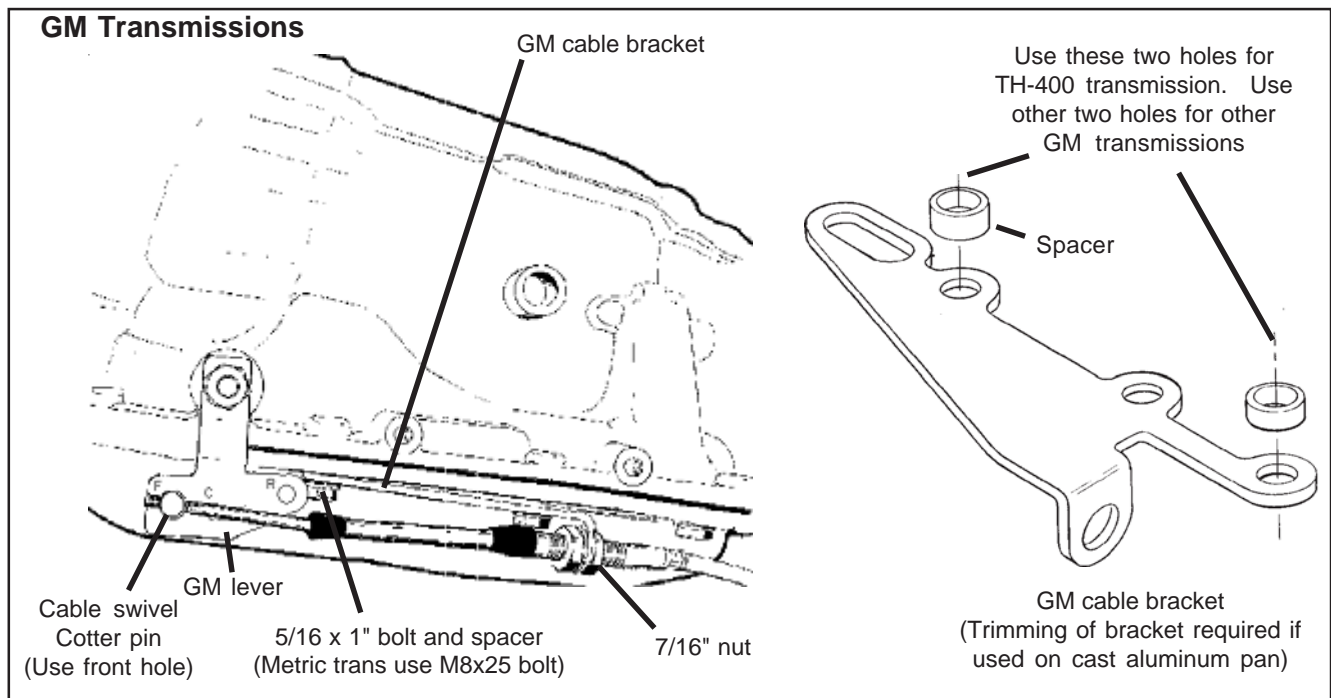

Figure 6
**STEP 10.** If you have not already done so, remove the stock selector lever nut and selector lever from the transmission. Discard stock lever and stock shifter linkage. Install **B&M** selector lever in position using stock selector lever nut, (See figure 6). Torque nut to 23 lb. ft. The lever should move smoothly from front to rear with a positive click in each gear position.
**STEP 11.** Remove two transmission oil pan bolts from the middle of the left side of the oil pan. Install cable bracket in position, (See figure 6.) The bracket must be installed with two spacers between the pan and bracket. (If your transmission is equipped with a cast aluminum oil pan, these spacers should be omitted. With a TH-400 with a cast aluminum oil pan the cable bracket may have to be modified.) Install the two 5/16-18 x 1.00" bolts (Metric transmissions use the two 8mm x 25mm bolts) supplied and tighten 12-13 ft. lbs. Do not overtighten as this can damage pan gasket.